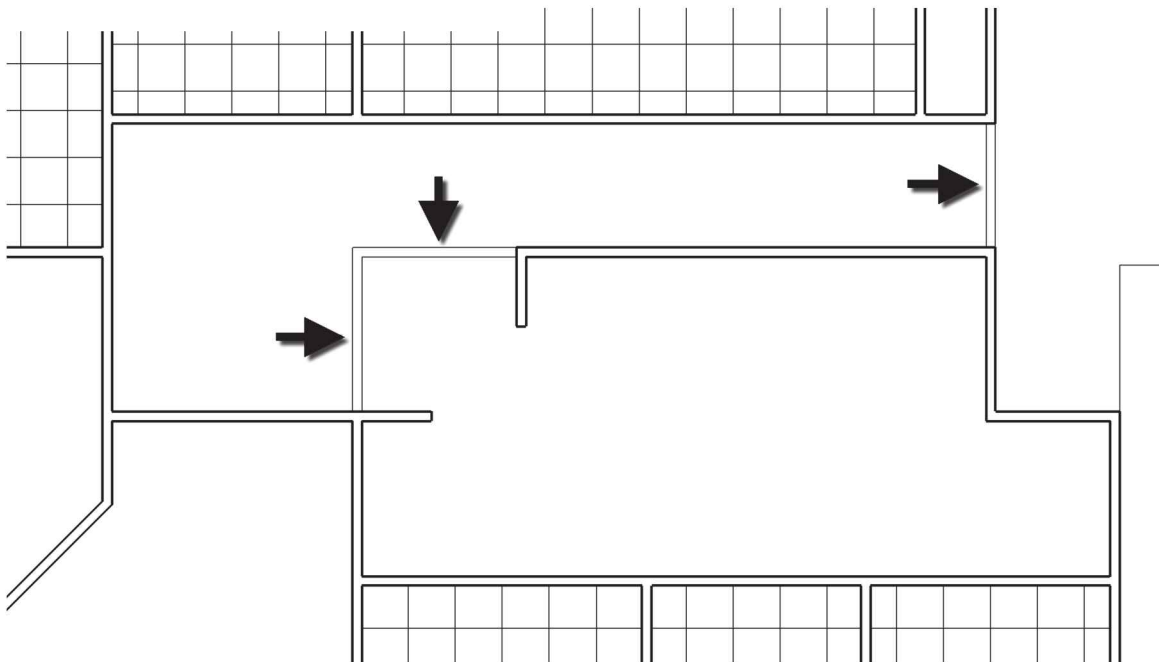

FIGURE 6-4.12 Bulkhead modeled
28. In the *Properties Palette*, set and the *Base Offset* to **7'-10"**. This will put the bottom of the wall to 7'-10" above the current floor level, Level 1 in this case (Figure 6-4.12).
30. **Draw the bulkhead;** make sure you snap to the adjacent walls (Figure 6-4.12).